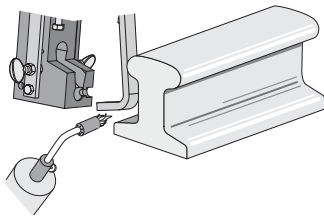

FIGURE 6
**WARNING:** The rail and mold must both be warmed to drive off moisture. Failure to observe this may result in weld spatter with the potential for serious burn injury, and a less than optimum bond with excessive porosity. See Figure 6.